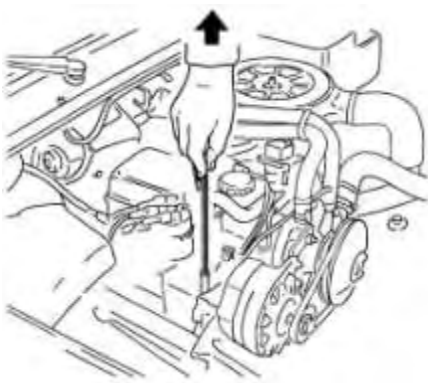
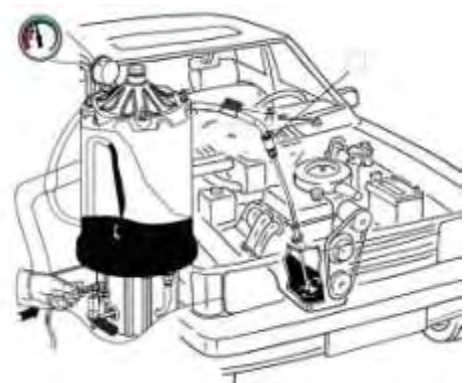

FIG. 4
FIG. 6
1. Ensure the oil tank is under negative pressure, FIG.4 remove engine oil case., choose suitable probe (which is the largest diameter one can be inserted into the engine) and tightly connect it to the extraction pipe connector. Insert the end of the probe into the engine oil inlet hole, FIG.6 Turn on the ball valve (Part NO. 075) for oil extraction.